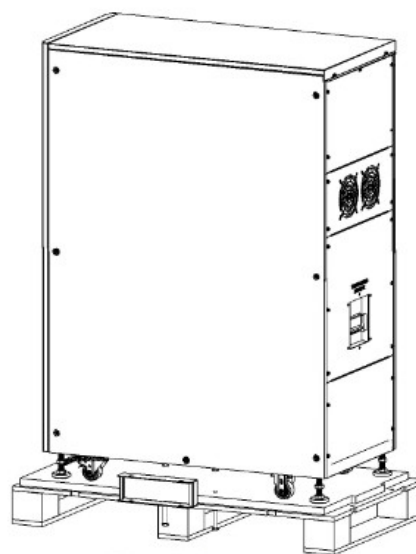

Figure 3-5
4. Unfasten the screws and remove the sheet metal affixed to the cabinet (Figure 3-5).